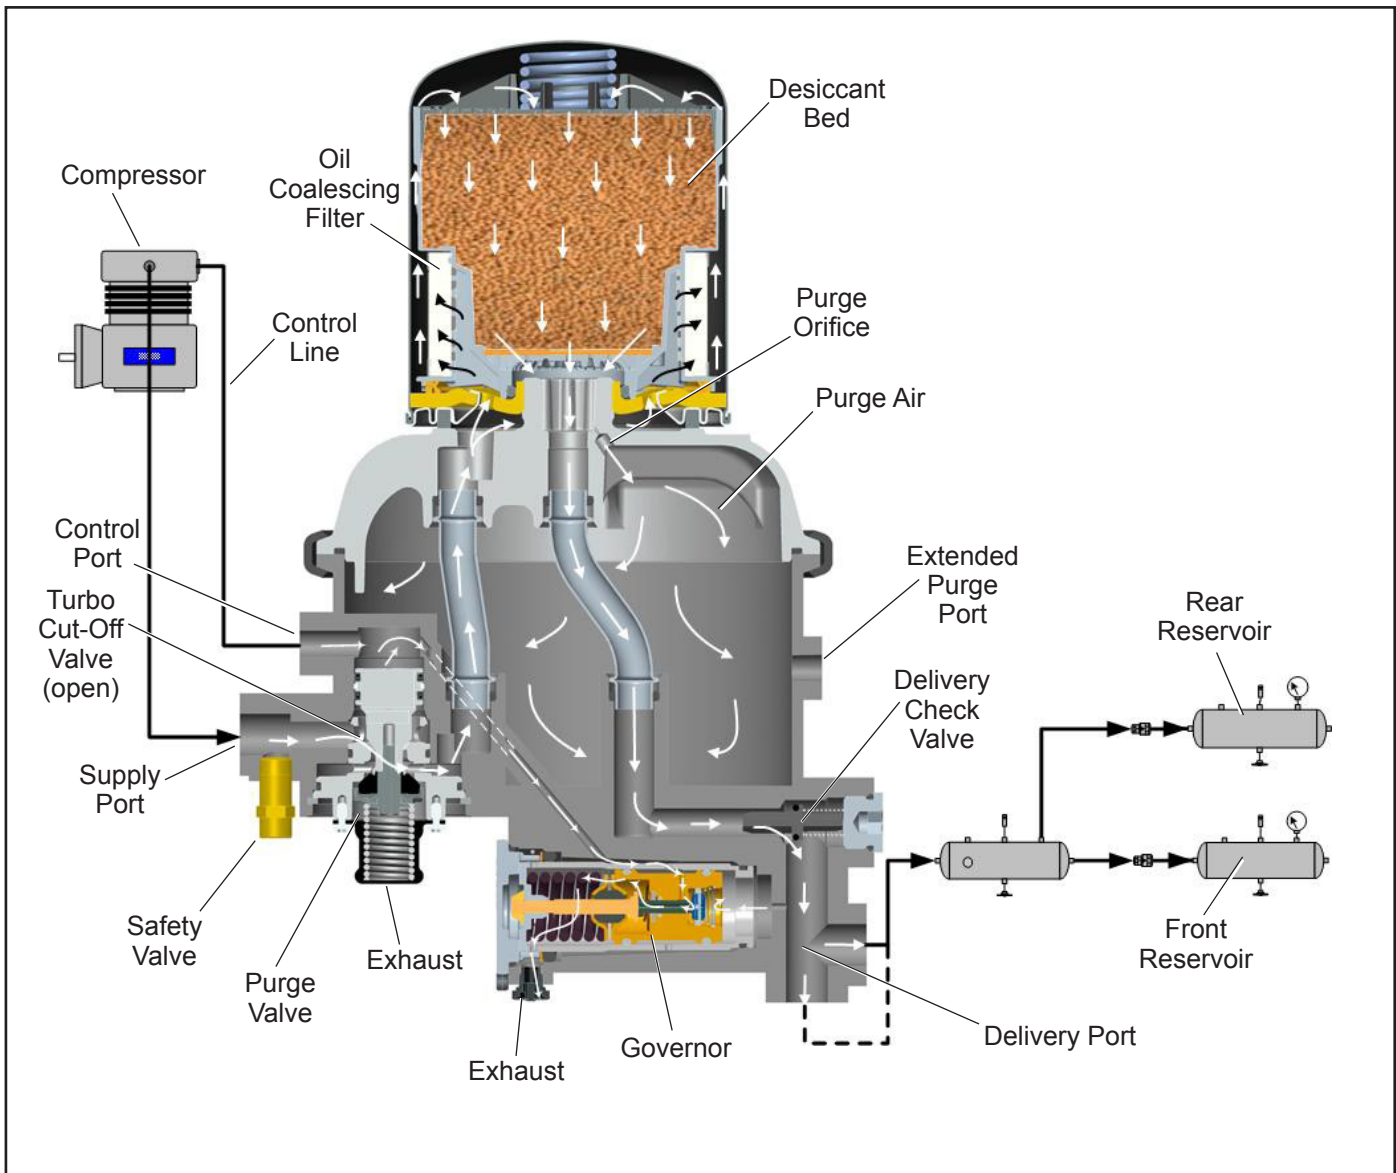
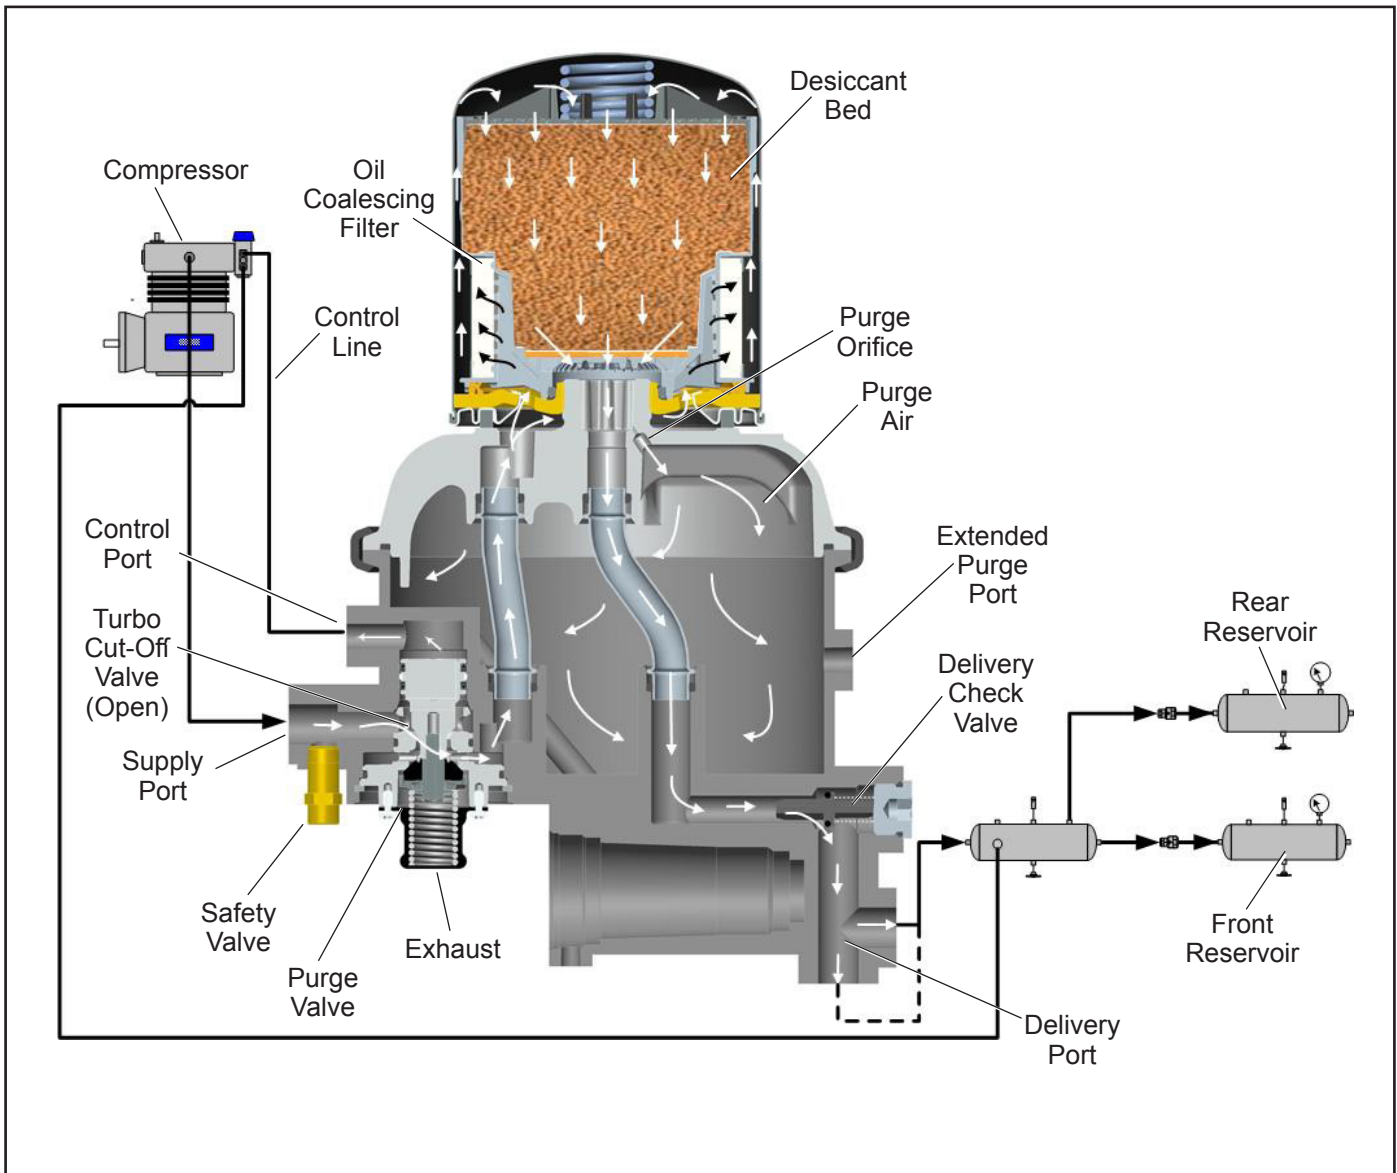

Figure 2 – Bendix® AD-9si® Air Dryer with a Governor— Charge Cycle
Figure 4 – Bendix® AD-9si® Air Dryer without a Governor— Charge Cycle
BENDIX AD-9si AIR DRYER OPERATION: GENERAL (Refer to Figures 2 through 5.)
The Bendix AD-9si air dryer is designed to receive compressed air from the vehicle air compressor, clean and dry the air, deliver air to the vehicle’s air reservoirs and control the compressor/dryer charge cycle. The AD-9si air dryer is available with an internal governor (Figures 2 and 3) or without an internal governor (Figures 4 and 5).
CHARGE CYCLE (Refer to Figures 2 & 4)
A. Electric Power to the Dryer (Refer to Figure 4)